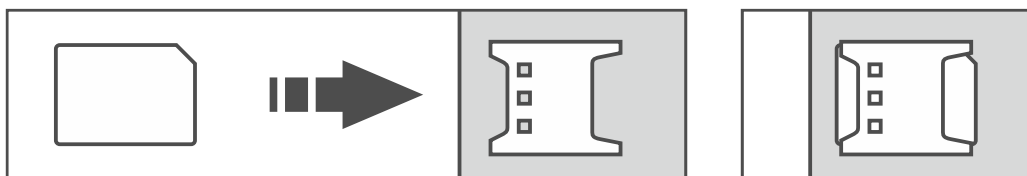

Fig. 17. Installing the nano-SIM card.
3. Insert the SIM card / cards into the socket / sockets (Fig. 17).